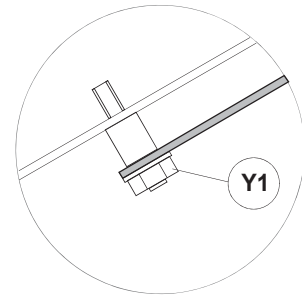

Fig. 136
- 4) take the electronic circuit board off by unscrewing the (Y1) nuts off (fig. 136).